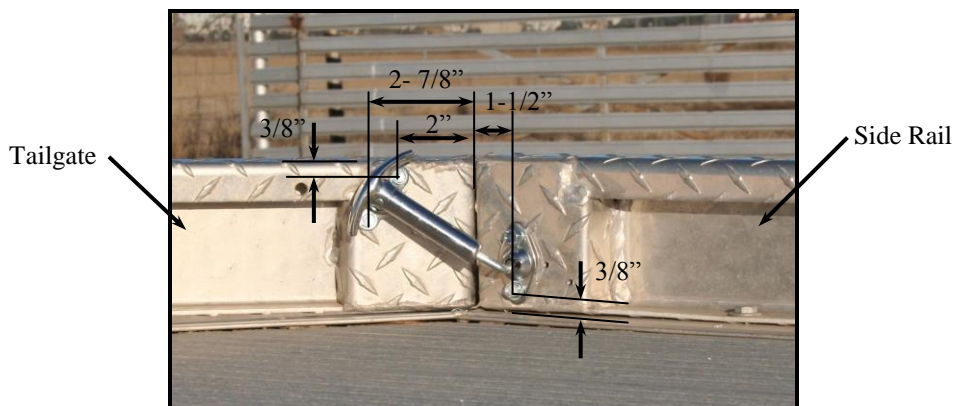

Figure 4
Install latch 1 1/2" from end of side rail. The bottom hole of latch will be 3/8" from bottom of side rail. Install with (2) 1/4 x 1 Tek Screw hex washer head screws. Install the catch plate at approximately 45° angle as shown in Figure 4. The top hole should be 2" from the edge of the tailgate and 3/8" from the top. Install using (2) 1/4 x 1 Tek Screw hex washer head screws. Repeat for opposite side.